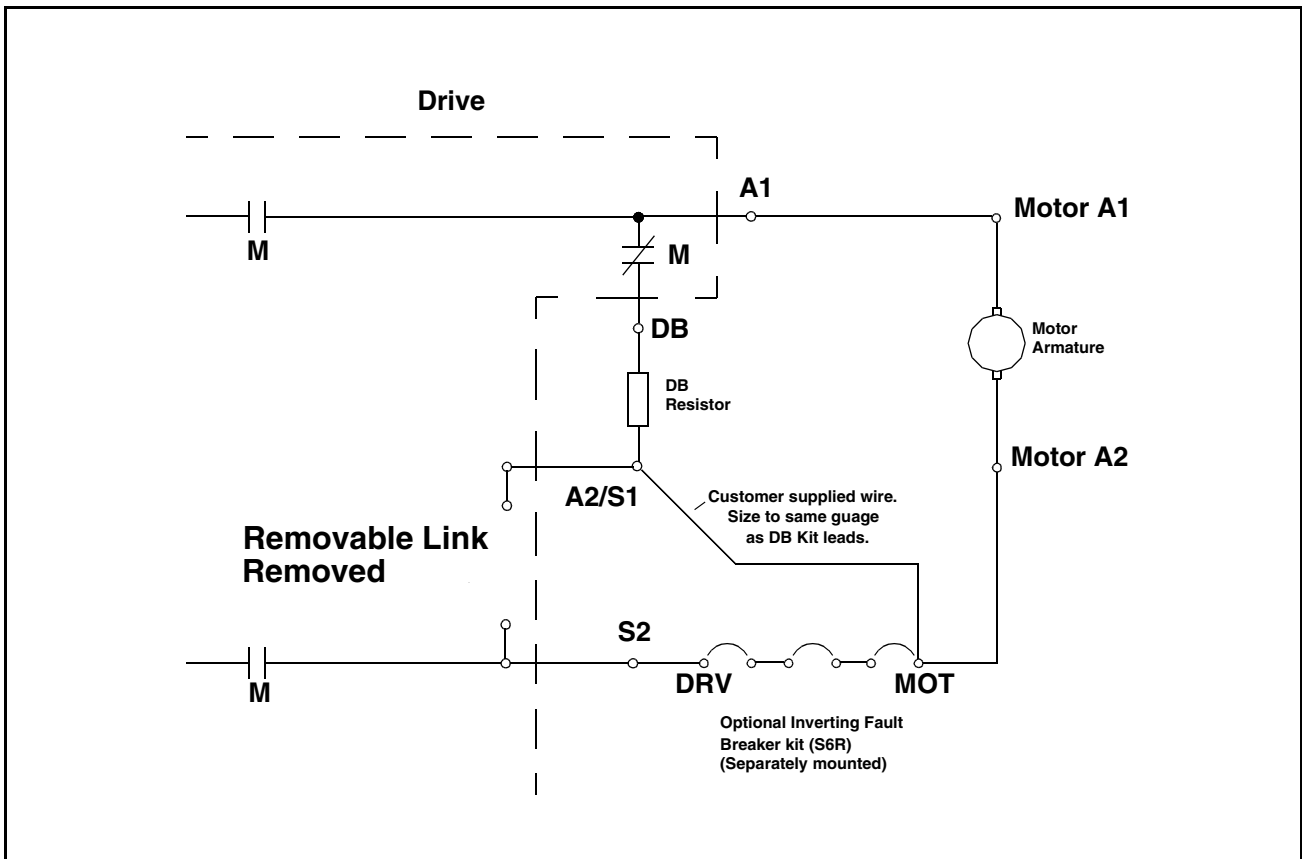

Figure 7 – DB with Inverting Fault Circuit Breaker
- DB with an Inverting Fault Circuit Breaker (shown in figure 7)
- Step 1. Follow the wiring diagram in figure 7 to connect the motor armature and the Dynamic Braking Resistor assembly to the FlexPak 3000 drive.
- Step 5. Route the resistor assembly harness as required. Use M10 x 25 mm screws, nuts and washers to attach resistor assembly harness to DBR and A2/S1 connections on the drive. See figure 7.